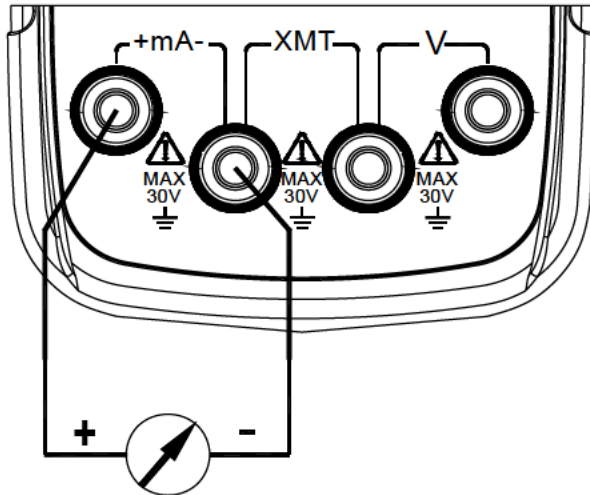

Figure 5-2
meter's output terminal (OUTPUT), and connect the other end with input terminal of the Users' meter, see Figure 5-2:
1. Connect as shown in Figure 5-2;